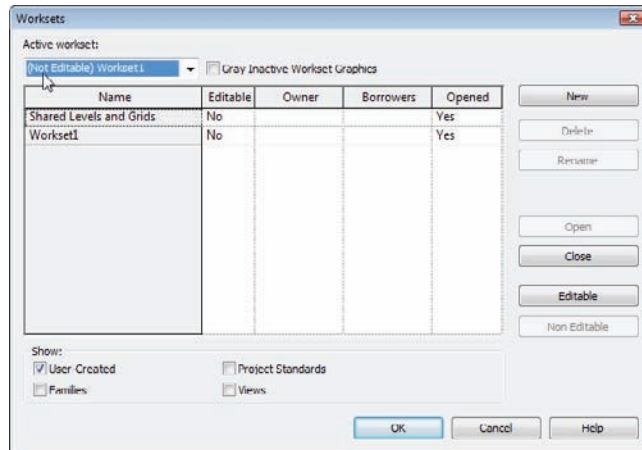

FIGURE 22.8 Releasing the worksets by clicking No for Editable
9. Change both worksets by choosing No in the Editable column (see Figure 22.8).